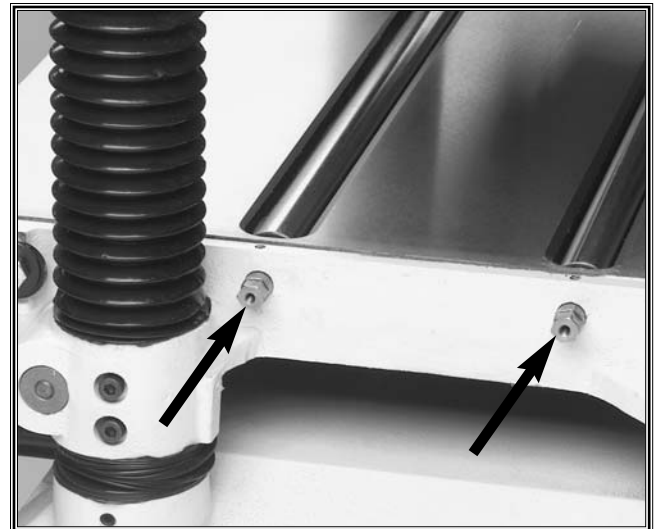

Figure 9. Bed roller setscrews.
1. Loosen the setscrews where the bed rollers mount to the planer body (on both ends) as shown in **Figure 9**.